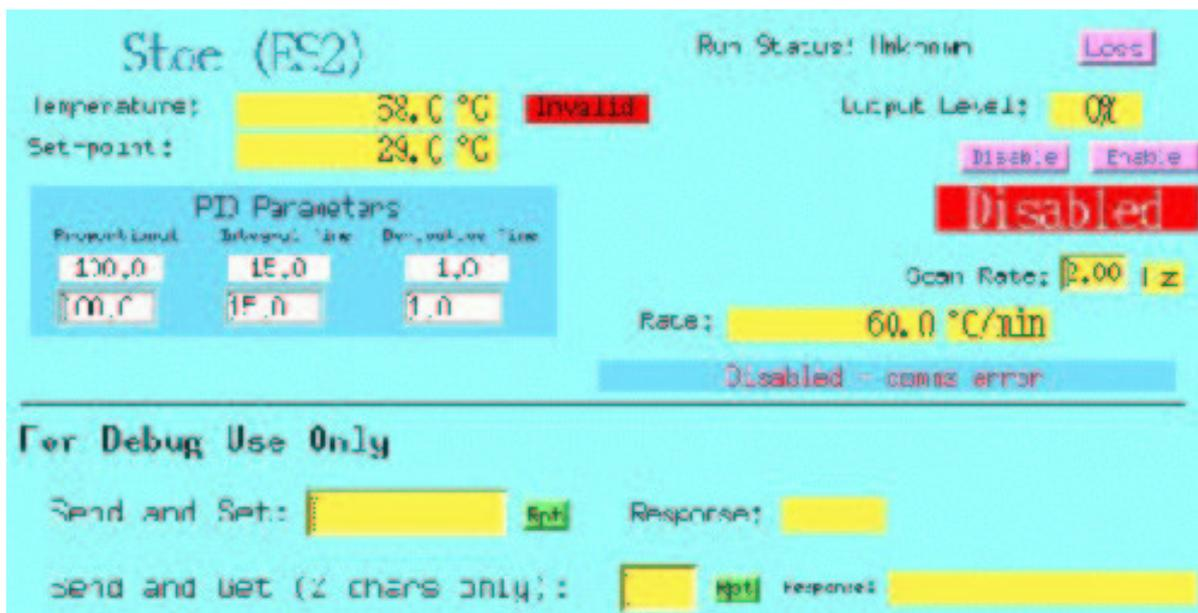

Figure 1: EPICS Panel in Disabled Mode
7. Check that the EPICS display panel is **disabled** (see Figure 1).